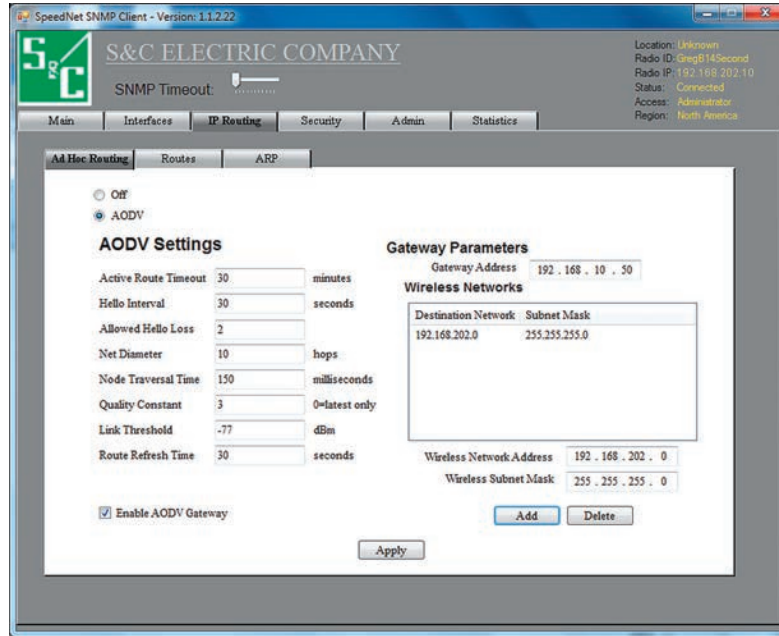

Figure 48. AODV configuration screen.
- STEP 1.** On the *Main* screen, select the **IP Routing** tab, and open the *AODV Settings* screen. See Figure 48.